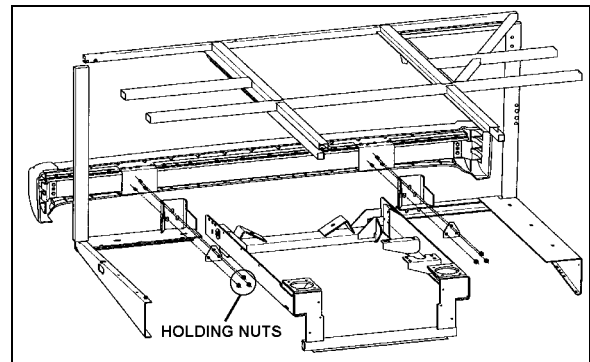

FIGURE 12: REAR BUMPER ASSEMBLY
License plate supports are stored in the first baggage compartment. Install supports as per figure 12.
1. Remove 6 nuts (3 on each side) holding bumper assembly to vehicle and remove bumper (Figure 12).